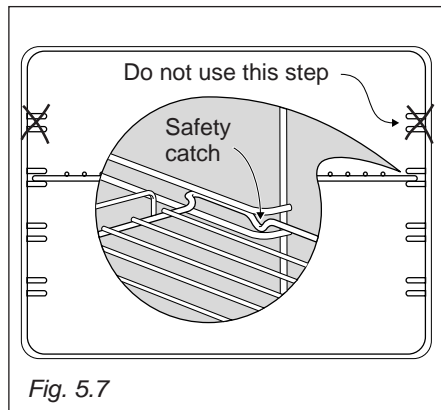

Fig. 5.7
- Slide in, on the guides, the shelf etc. (fig. 5.7).